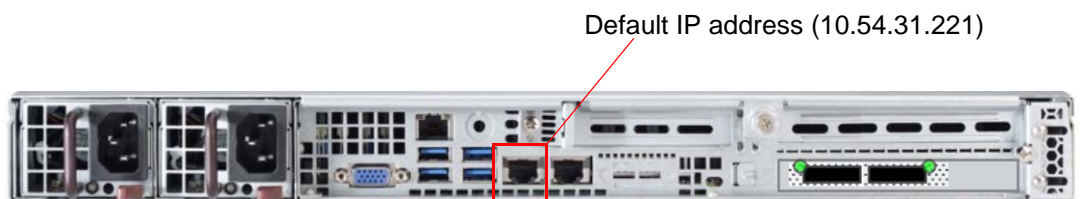

Figure 47 MV-805 Rear “Control” Network Interface
3. Directly connect the computer RJ45 port to the “Control” network interface of the MV-805. See Figure 47.